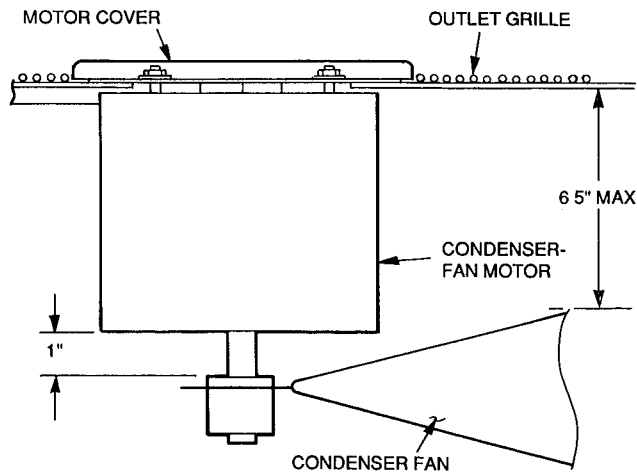

Fig. 32 — Condenser-Fan Adjustment
Condenser-Fan Adjustment (Fig. 32)
3. Adjust fan height as shown in Fig. 32.